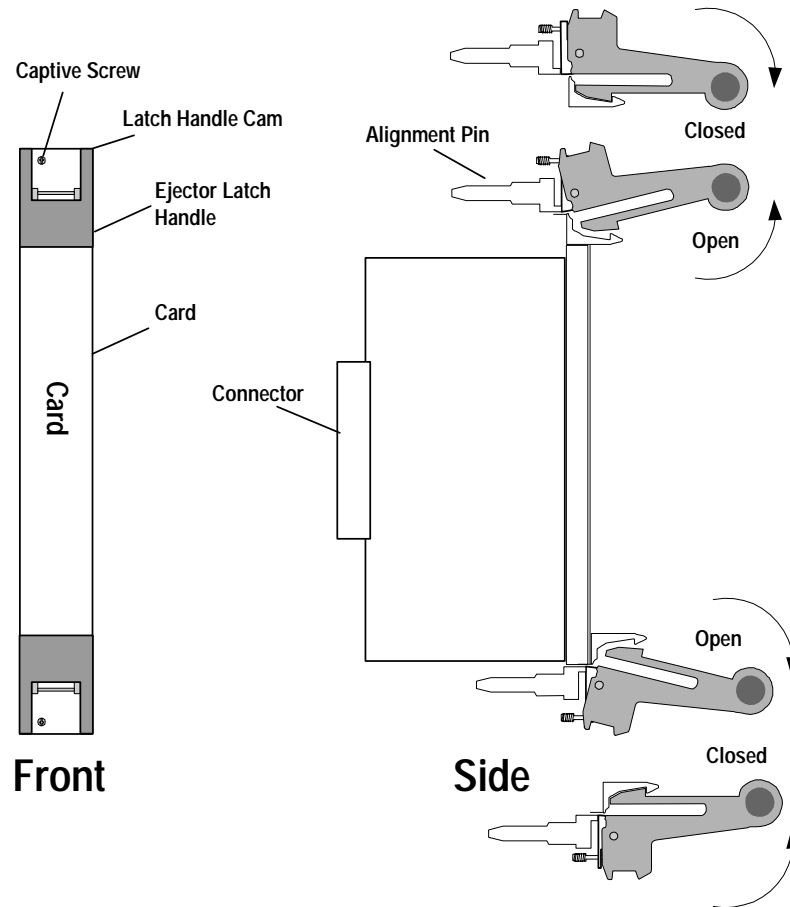

Figure 5 Card installation and removal
1. Slide the card into its slot in the system chassis. As the card's ejector latches engage the chassis, apply forward pressure while pushing the ejector latch handles toward each other. See Figure 5 for an illustration of Power Supply installation.